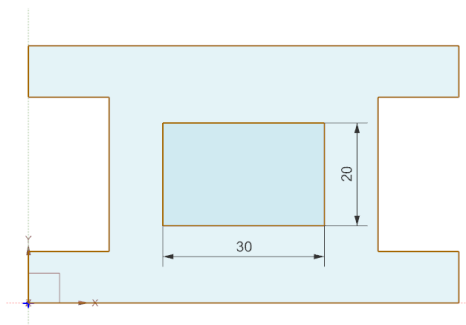

Figure 2-66 Final sketch for Tutorial 1
5. Press the Esc key to exit the tool. The final sketch for Tutorial 1 is shown in Figure 2-66.